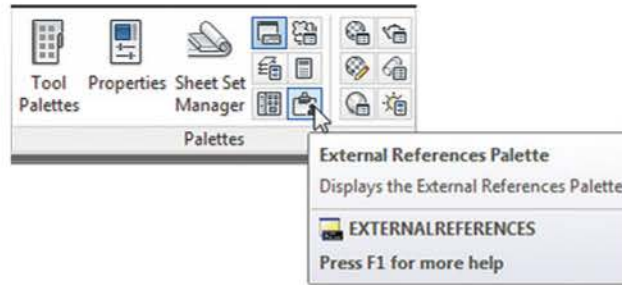
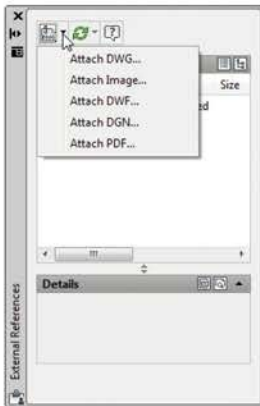

Fig. 14.14 The External Reference tool in the View/Palettes panel
Fig. 14.15 The External References palette
3. Click **External References** in the **View/Palettes** panel (Fig. 14.14). The **External Reference** palette appears (Fig. 14.15).